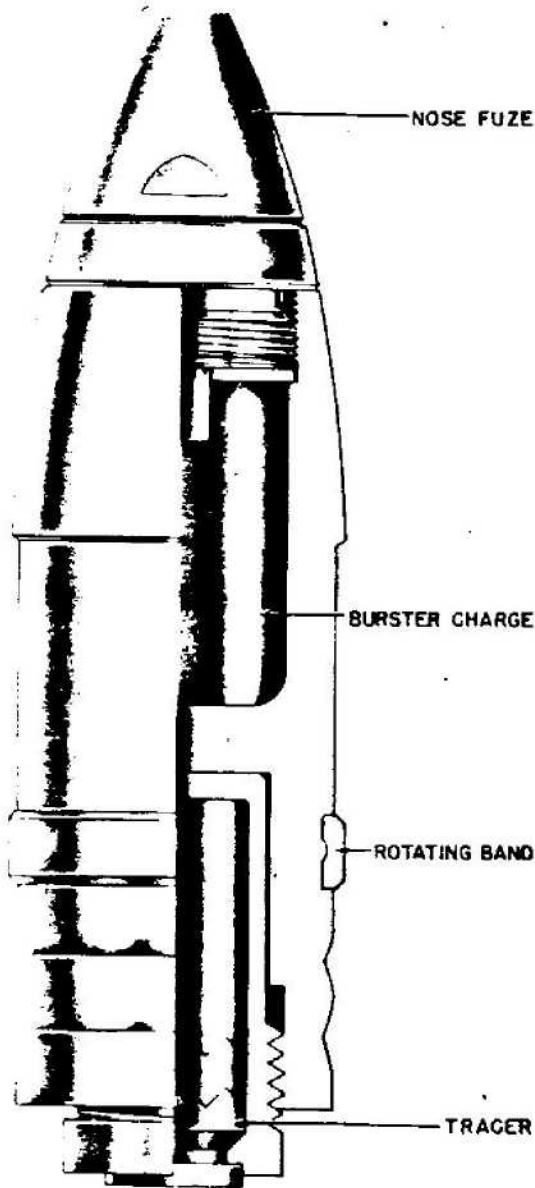

Figure 359—H. E. Projectile for Gun C/30, 37-mm, 3.7-cm Sprgr. Patr. C/30
**H. E. PROJECTILE FOR GUN C/30, 37-MM GERMAN NOMENCLATURE:** 3.7-cm. Sprgr. Patr. C/30 (Sprenggranate Patronen 30). (See fig. 359.)